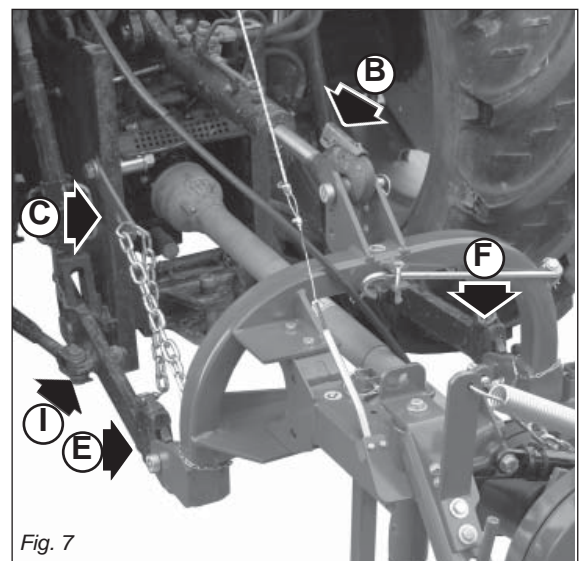
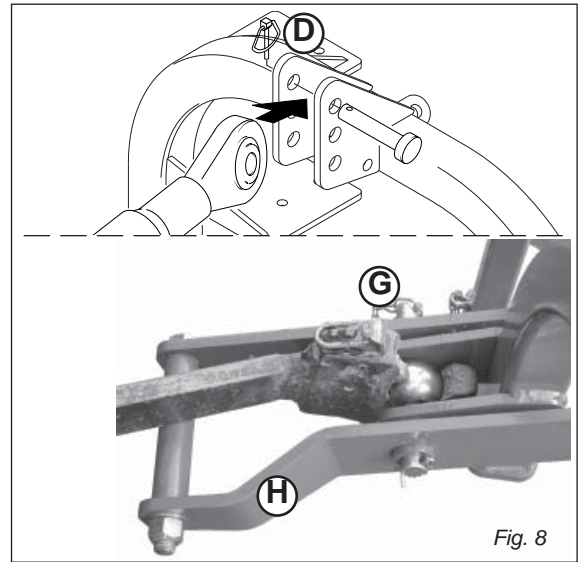

Fig. 7
Fig. 8
2. Connect the upper third-point and correctly regulate by means of the adjuster (B, Fig. 7). Place plate (C, Fig. 7) at the left side of the hitch integral with the same pin. Lock in place with the snap-in split pins (D, Fig. 8).
- Hook the oscillating arms of the tractor to pins (E and F, Fig. 7). The hoisting arm (H, Fig. 8) must be fixed underneath the tractor arm. Lock in place with the snap-in split pins (G Fig. 8)
- Lock the lift links using the relative chains (I, Fig. 7) and couplings parallel to the tractor. This operation must be carried out to prevent the machine from moving in a horizontal direction.